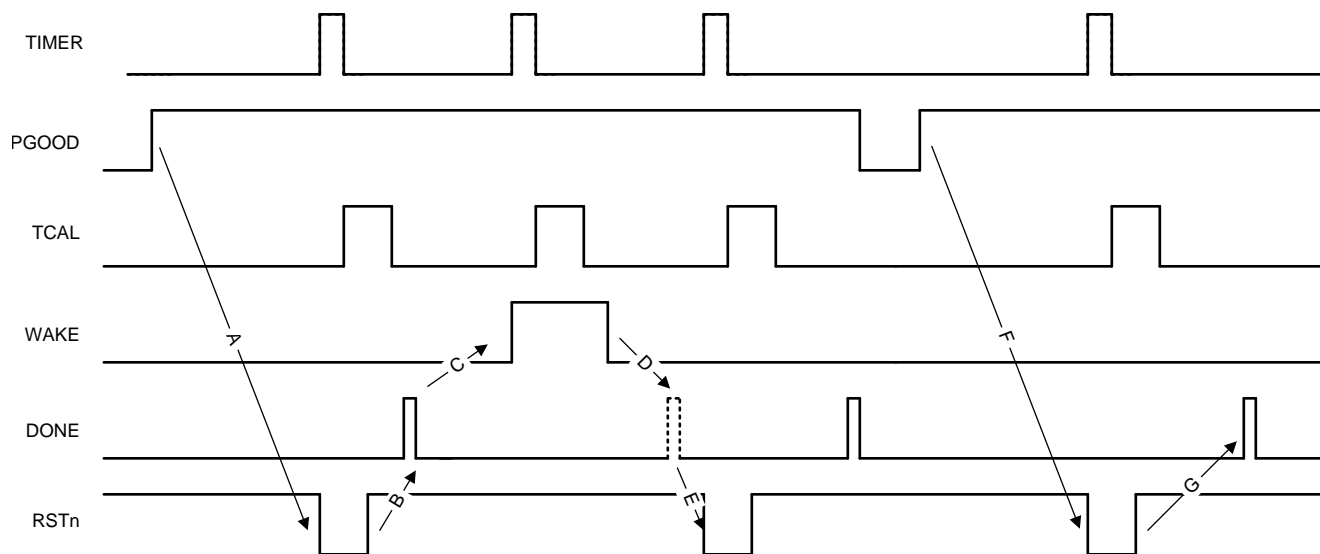

Figure 6. Watchdog and Supervisor Feature
**Figure 6** shows the supervisor feature of the TPL5000. The sequence F, G is a standard sequence where the microcontroller is in deep sleep and a voltage supply drop occurs (which is highlighted by the PGOOD high to low transition). When PGOOD is high again, a reset pulse at the end of the delay period is sent to the microcontroller (arrow F), then the microcontroller executes its routine (memory has been reloaded upon reset) and sends the "DONE" signal.
Figure 6 shows the watchdog feature of the TPL5000. The sequence A, B, C is a standard sequence with the microcontroller working properly. In this normal sequence, the microcontroller sends a valid "DONE" (arrow B) before the end of the delay period. The sequence C, D, E is an anomalous sequence in which the microcontroller is not in a valid state, and it does not send the DONE signal (dashed pulse) before the end of the delay period. The TPL5000 determines the microcontroller is hung and sends a RESET signal (arrow E) when the period delay has elapsed.